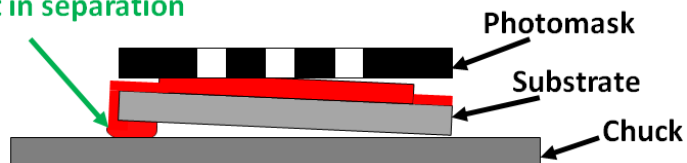

Figure 4 Proper alignment is inhibited due to non parallel surfaces from backside resist which sticks to the mask in separation mode.
- Photoresist may prevent the sample from being planar, which may cause part of the sample to stick to the photomask even if the separation lever is engaged (**Figure 4**).